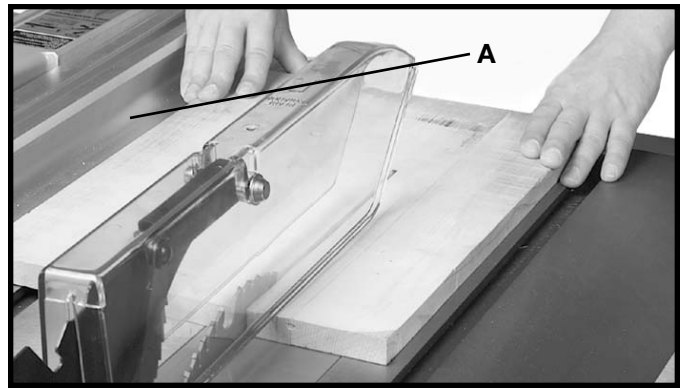

Fig. 46
Ripping is the operation of making a lengthwise cut through a board, as shown in Fig. 46, and the rip fence (A) is used to position and guide the work. One edge of the work rides against the rip fence while the flat side of the board rests on the table. Since the work is pushed along the fence, it must have a straight edge and make solid contact with the table. The saw blade guard must be used. On Delta saws, the guard has anti-kickback fingers to prevent kickback and a splitter to prevent the saw from closing and binding the blade.
Never stand in the line of the saw cut when ripping. Hold the work with both hands and push it along the fence and into the saw blade as shown in Fig. 46. The work can then be fed through the saw blade with one or two hands. After the work is beyond the saw blade and anti-kickback fingers, the hand is removed from the work. When this is done the work will either stay on the table, tilt up slightly and be caught by the end of the rear guard or slide off the table to the floor. Alternately, the feed can continue to the end of the table, after which the work is lifted and brought along the outside edge of the fence. The cut-off stock remains on the table and is not touched with the hands until the saw blade is stopped, unless it is a large piece allowing safe removal. When ripping boards longer than three feet, it is recommended that a work support be used at the rear of the saw to keep the workpiece from falling off the saw table.